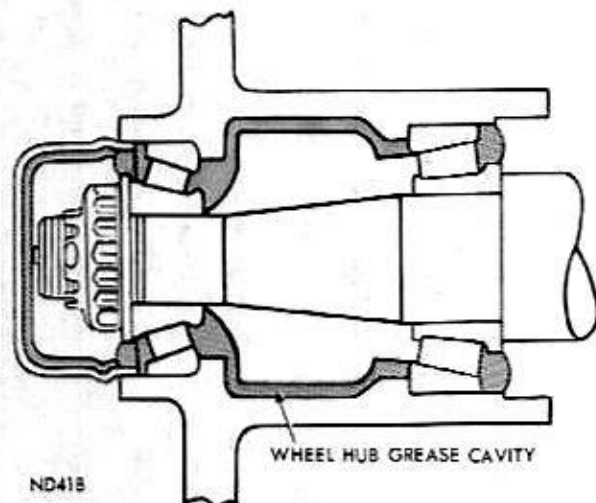

Fig. 9—Wheel Hub Grease Cavity
(1) If the bearing cups were removed, start the new cups into hub evenly, driving them flush with hub using a soft steel block and hammer. Seat cups against shoulders of hub, using a soft steel drift and hammer.
(2) Fill hub grease cavity (Fig. 9) with recommended wheel bearing lubricant. Lubricant should be even with inner diameter of bearing cups.
(3) Force lubricant between bearing cone rollers or repack using a suitable bearing packer.
(4) Install inner cone and a new seal, with lip of seal facing inward. Using Tool C-3893, position seal flush with end of hub. The seal flange may be damaged if tool is not used.
(5) Clean the spindle and apply a light coating of wheel bearing lubricant over the polished surfaces.
(6) Install wheel tire and drum assembly on spindle.
(7) Install outer bearing cone, thrust washer and adjusting nut.
(1) If bearing cups were removed, start new cup into hub evenly, driving them flush with hub using a soft steel block and hammer. Seat cups against shoulders of hub, using a soft steel drift and hammer.
(2) Fill hub grease cavity (Fig. 9) with recommended bearing lubricant, see Lubrication Group 0. Lubricant should be even with inner diameter of bearing cups.
(4) Install inner cone and a new seal with lip of seal facing inward. Using Tool C-3893, position seal flush with end of hub. The seal flange may be damaged if tool is not used.
(6) Install hub and braking disc assembly on spindle and install outer bearing cone, thrust washer and adjusting nut.
(7) Slowly slide caliper assembly down on brake disc assembly and position correctly.
(8) Install caliper assembly over disc and align mounting holes. Install mounting bolts and tighten to 45 to 60 foot-pounds.
(9) Install tire and wheel and tighten wheel nut to specifications.